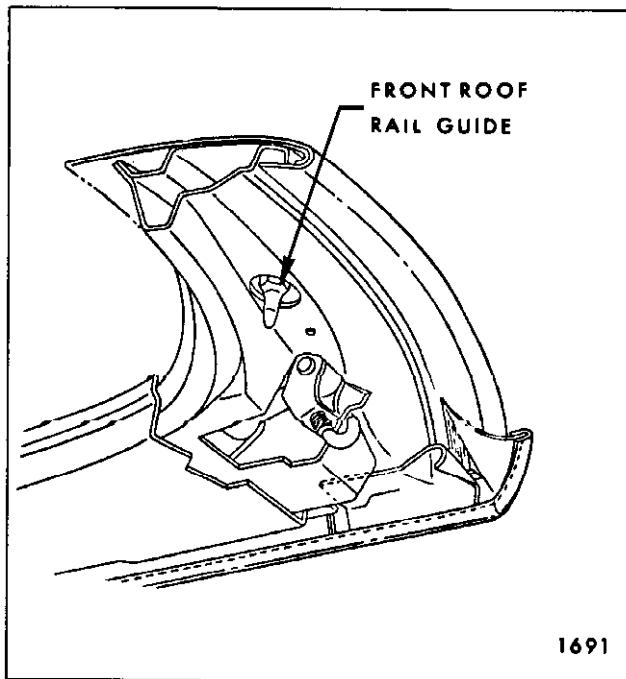

Fig. 13-79 - Guide Adjustment
2. Loosen guide sufficiently to permit adjustment (Fig. 13-79).